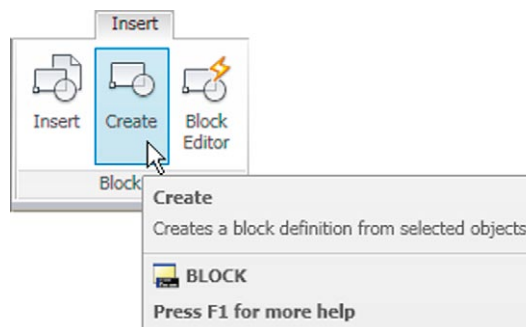

Fig. 9.2 Click **Create** tool icon in the **Insert/Block** panel
2. Left-click the **Create** tool icon in the **Home/Block** panel (Fig. 9.2).